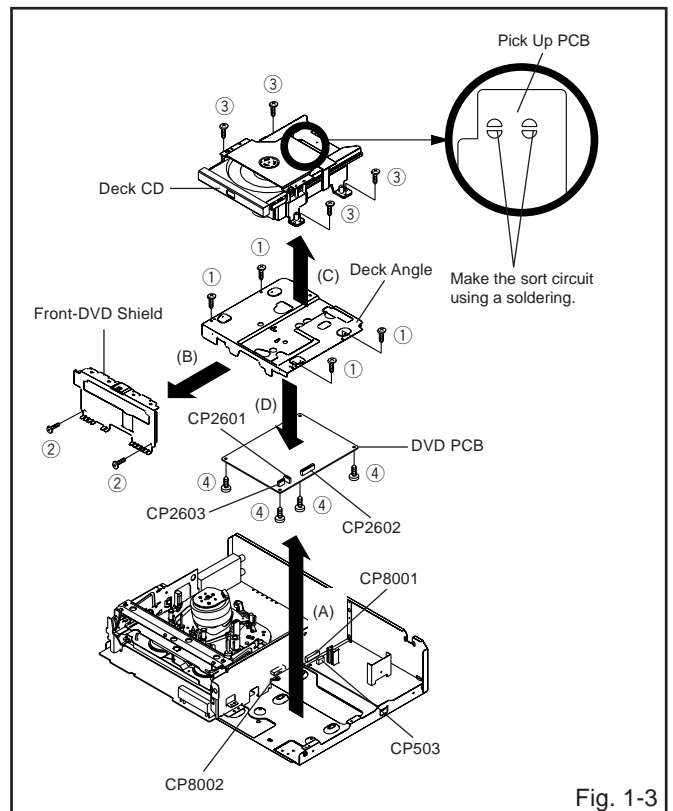

Fig. 1-3
### 1-3: DECK CD AND DVD PCB (Refer to Fig. 1-3)
1. Make the short circuit on the position as shown Fig. 1-3 using a soldering. If you remove the Deck CD with no soldering, the Laser may be damaged.
3. Remove the 4 screws ①.
4. Remove the Deck Angle in the direction of arrow (A).
5. Remove the 2 screws ②.
6. Remove the Front-DVD Shield in the direction of arrow (B).
7. Remove the 4 screws ③.
9. Remove the Deck CD in the direction of arrow (C).
10. Remove the 4 screws ④.
11. Remove the DVD PCB in the direction of arrow (D).